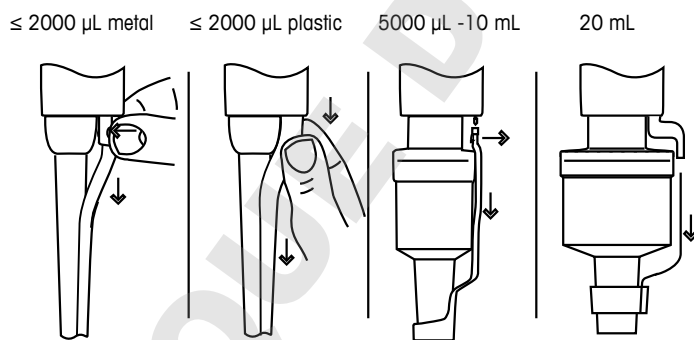

Figure 29: Removing the Tip Ejector
1. Remove tip ejector arm (See Tip ejector arm removal Figure 29).